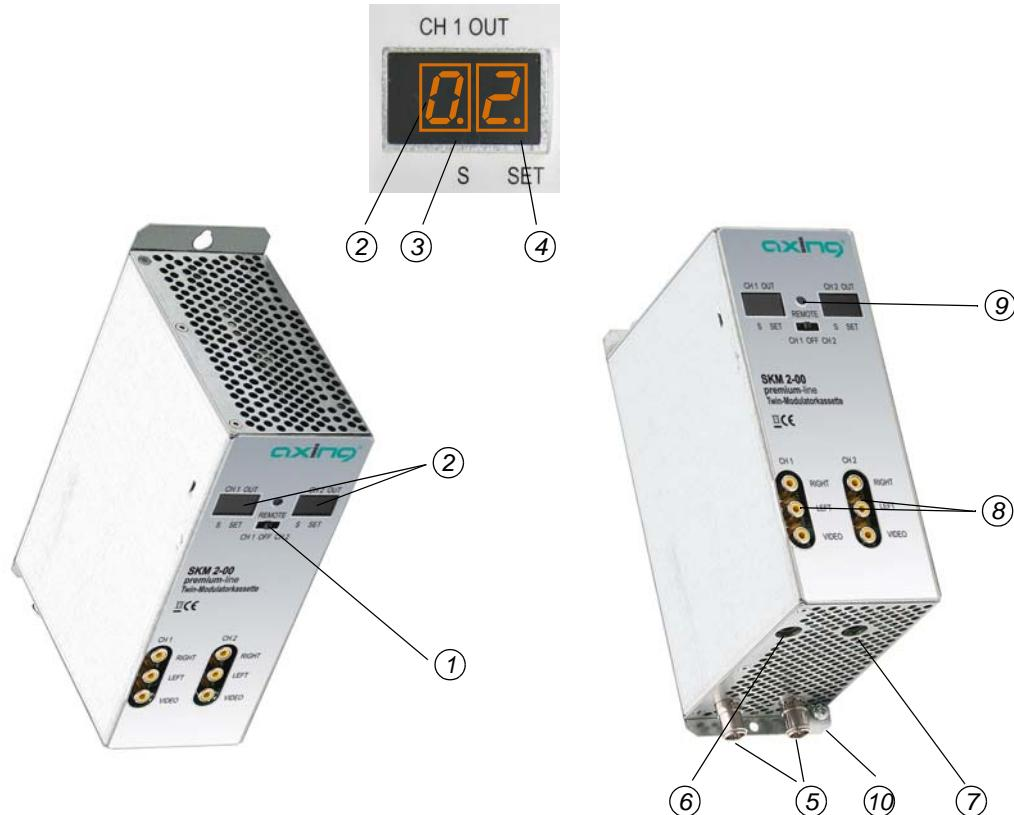

Fig. 2 *Display elements and connections*
Before installing modules, the power supply must be switched off. Ground the module acc. to EN 50083-1, EN 60728-11:2010 in order to avoid dangerous overvoltages (attention: risk of fire/death). Use the grounding screw attached to the device (see ⑩ in fig. 2 on page 4).
The modulation module has to be fastened to a wall or onto a flat surface. In single operation mode of the SKM 2-00, the power supply is provided by the DC feeding socket (see ⑥ in fig. 2 on page 4). A separate power supply unit SKZ 5-00 is required for it. More units are connected by means of the DC loop-through. One DC connection cable SKZ 4-00 is included in the delivery of the SKP 2-00. Max. 4 pieces SKM 2-00 may be connected together in single operation mode.
Audio and video sources are connected to the cinch connectors at the front (see ⑧ in fig. 2 on page 4). Inputs In single operation mode of the SKM 2-00, the outputs of the twin modules must be combined by means of a splitter. The input splitters (SKV 2..8-00) in connection with F-double sockets (CFA 3-00) may be used.